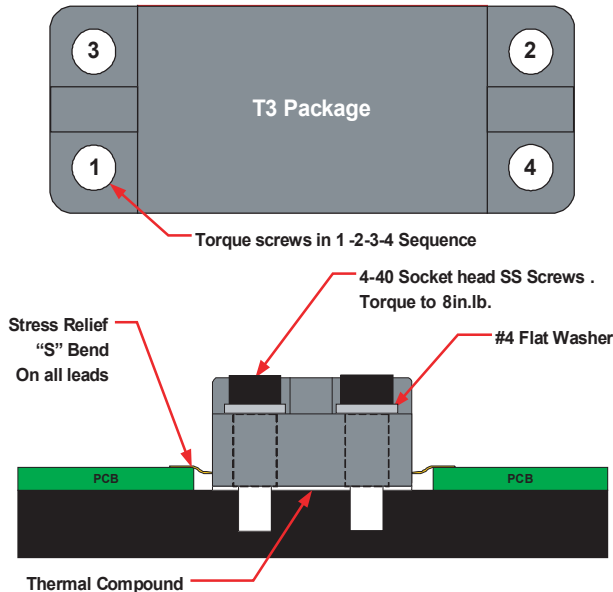

Figure 11, Top and Side View of a T3 device
1. The four screws (1-2-3-4), as shown in Figure 11, should be installed and seated, then torqued to one-half the specification, in the sequence shown. First screw 1 then screw 2, 3 and 4.